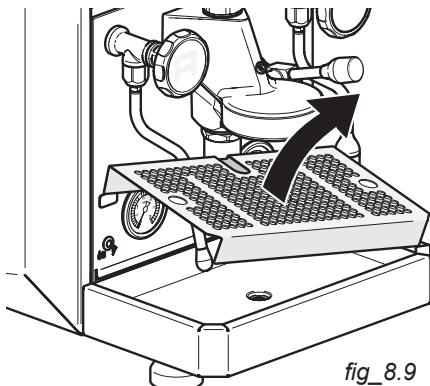

fig. 8.9
1. Remove the grid and the tray and wash with warm soapy water. Rinse and dry. (fig. 8.9)